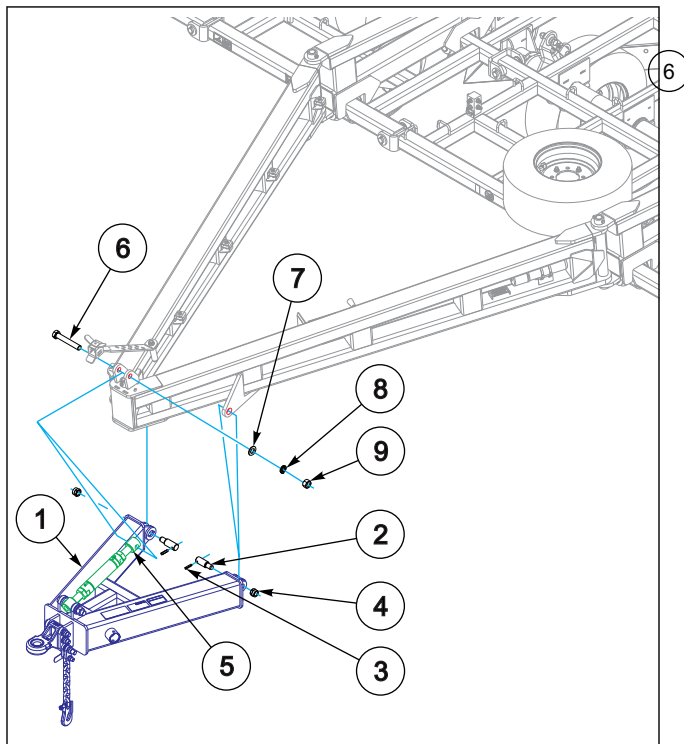

Figure 3-3: Hitch Leveler Assembly
5. Attach rear of the leveler hitch (1) to the front ears of the hitch weldments with 2, 1.75" x 2-3/4" pin (2), 1/2" x 2-1/4" grooved pin (3) and 1-1/4"-7 lock nut (4) as shown **See Figure 3-3**.
6. Swing front of of the leveler hitch up until rear of radius rod assembly (5) aligns with holes of plates on front of hitch weldments.
7. Install the 1-1/4"-7 x 8" cap screw (6) through aligned holes, secure with 1-1/4" flat washer (7), 1-1/4" lock washer (8) and 1-1/4"-7 hex nut (9).